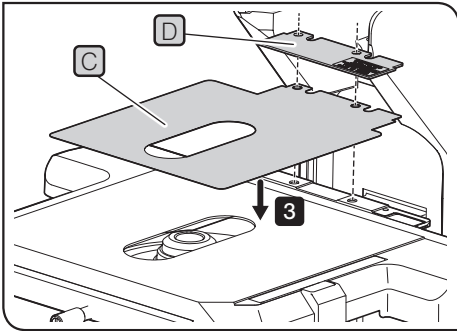

Fig.56
- As shown in Fig.56, connect to the connector by letting the cable into the cable holder (attached with BX43-5RES) attached to the rear panel.